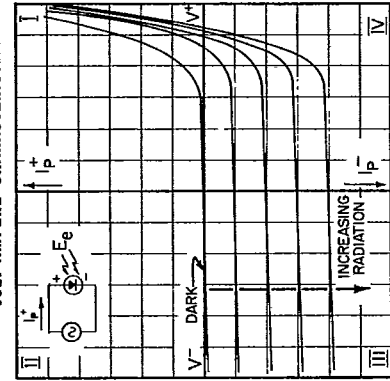

FIGURE 11
e. Linearity The voltage-current transfer curves are shown in Figure 11. The polarity convention used is the same as a non-light sensitive diode. Photovoltaic operation occurs in the 4th quadrant. The open circuit voltage is shown as the intersection of the transfer curve and the horizontal axis. The short circuit current is shown as the intersection of the transfer curves and the vertical axis. This is the most linear method of operation. In the 3rd quadrant, the diode is operating with reverse bias and it is apparent that the current changes only a few percent with changes in voltage. The diode can therefore be considered a constant current source. In the 1st quadrant, the diode is forward biased. Forward voltage drop for 10mA of forward current varies from 500mV to 1.2V depending on the chip size and process. Linearity is limited at the high current level by the internal series resistance. At the low current level the limitation is the dark resistance. Diodes with very high dark resistance may be operated at levels from picoamperes to milliamperes with only 1-2% linearity errors.